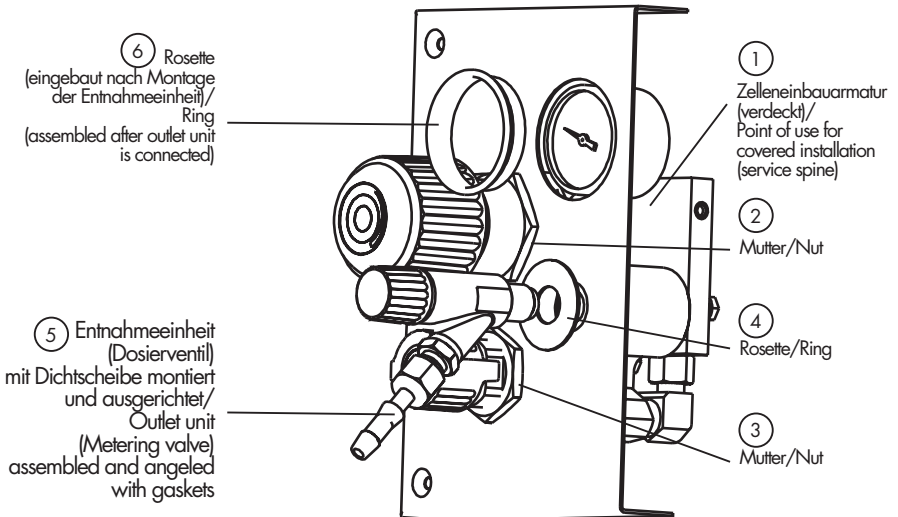

Abb. 4 / Fig. 4
6.6.3.2 Montage Zelleinbauarmatur (Abb. 4):
6.6.3.2 Assembly point of use for covered installation (service spine) (Fig. 4):